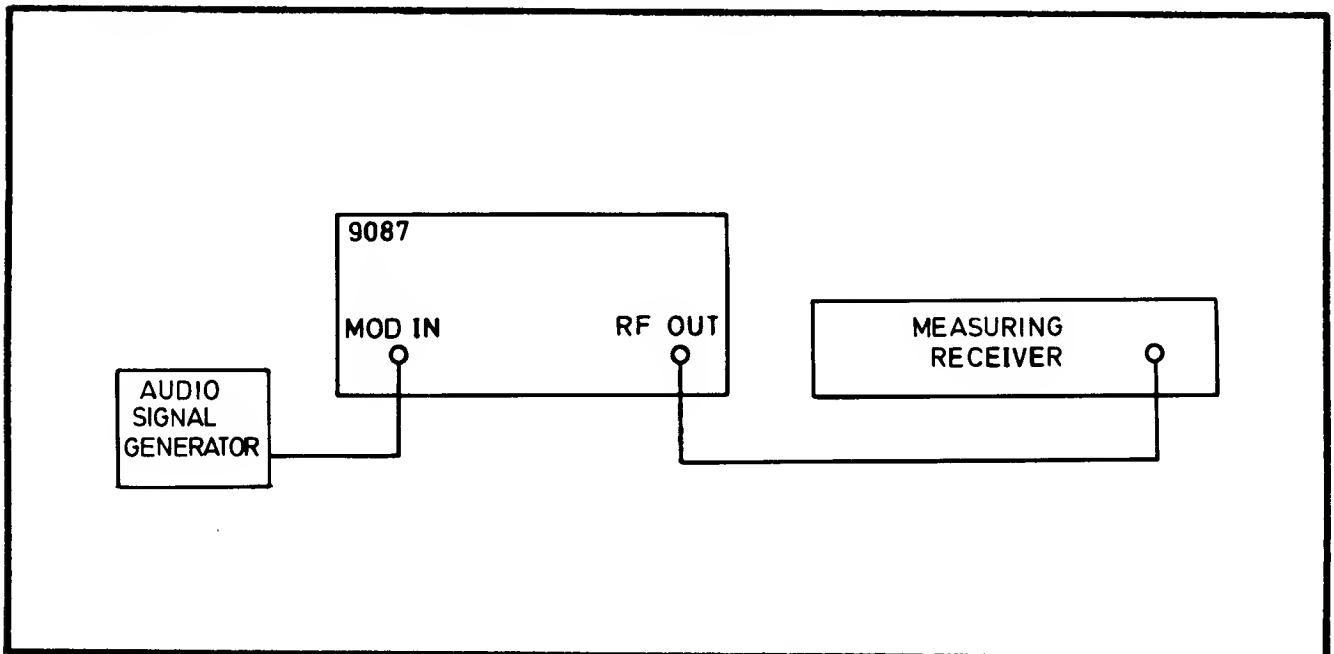

Fig. 7.23. Connections for Modulation PVP
7.9.2.5.2 Connect the test equipment as shown in Fig. 7.23.